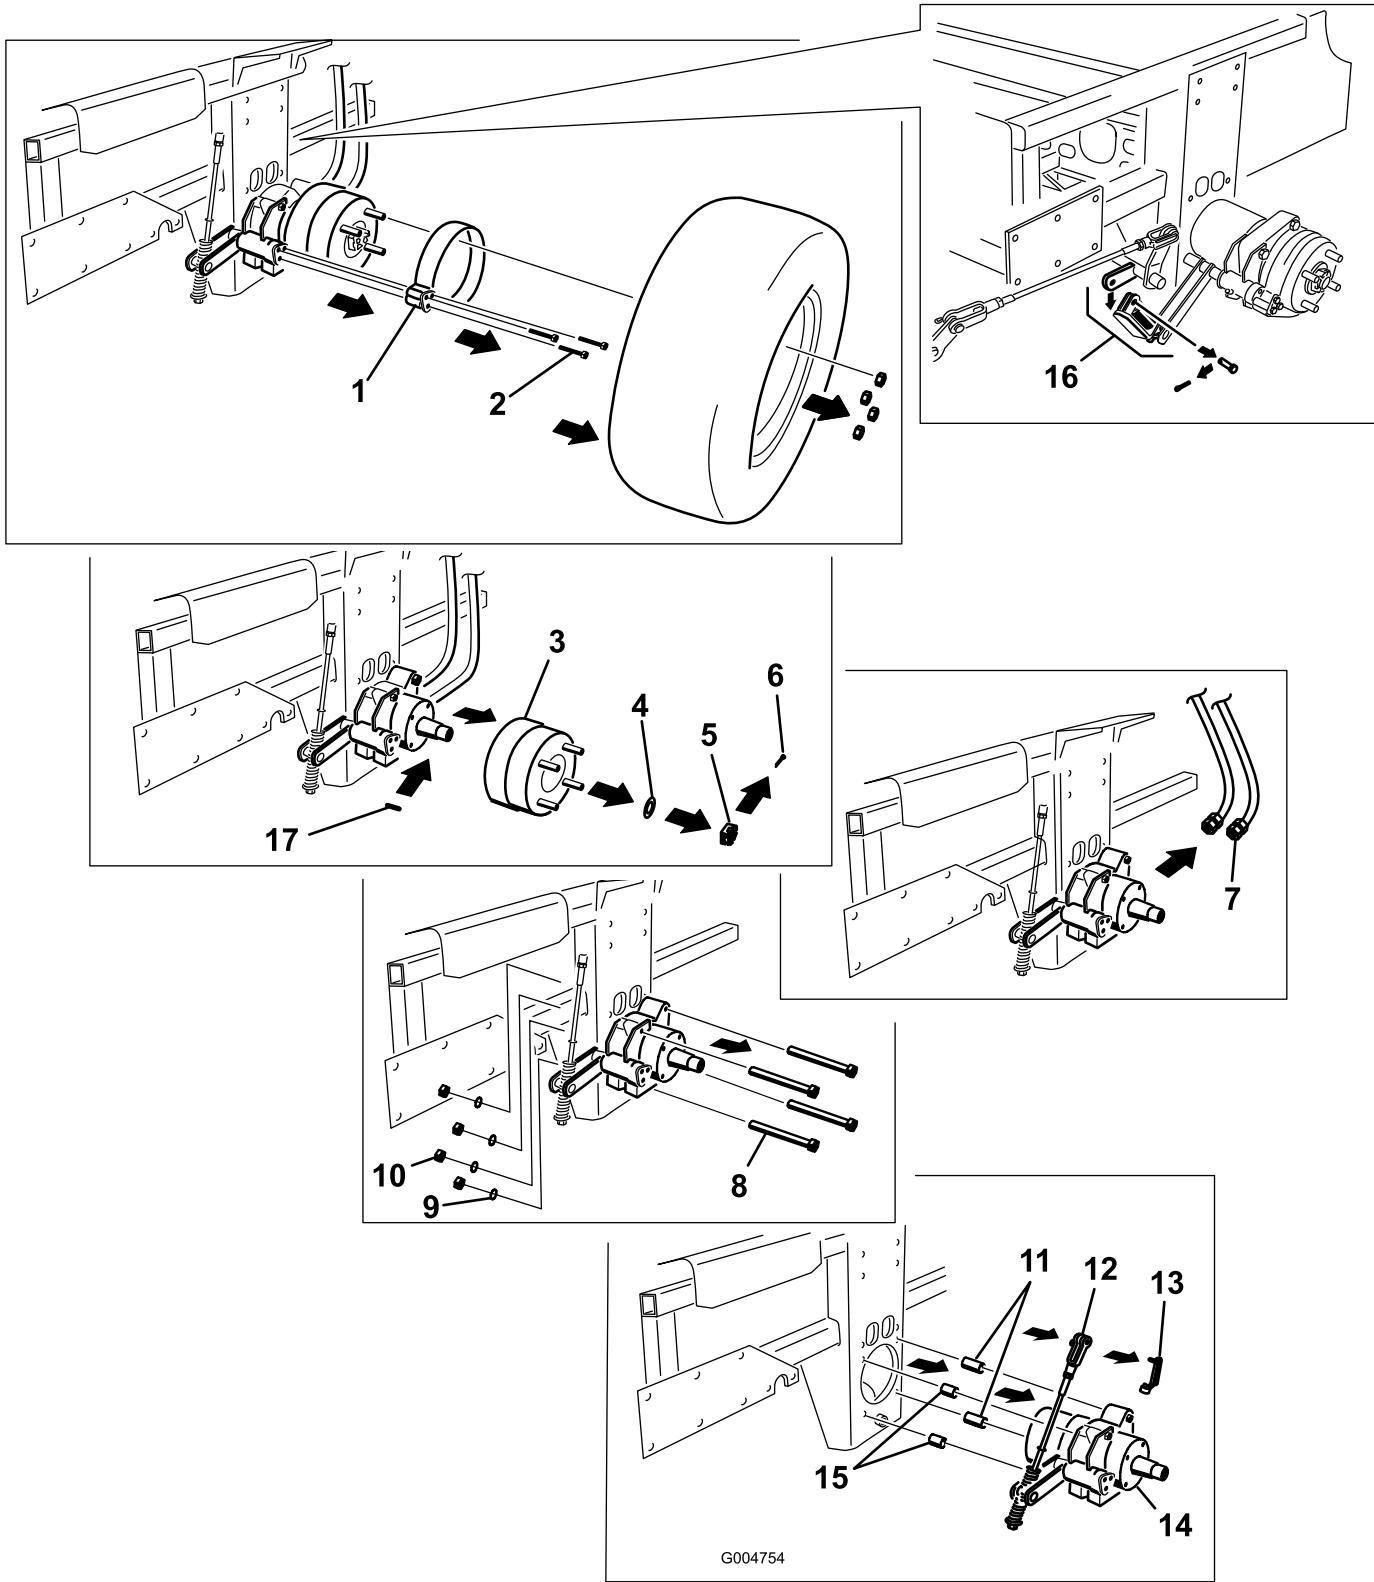

Figure 1
3. Loosen the lug nuts or bolts on the rear tires (Figure 1).
5. Remove the lug nuts or bolts and rear tires from the machine (Figure 1).
6. Remove the brake band bolts and remove the brake band from the wheel hub (Figure 1).
7. Remove the cotter pin from the axle nut and remove the axle nut and washer (Figure 1).
8. Pull the wheel hub from the wheel motor (Figure 1). This may require the use of a pulley puller to remove it.
9. If needed, remove the hydraulic lines connected to the wheel motor (Figure 1). Raise the ends above the hydraulic tank to prevent the fluid running out and plug the hydraulic lines.
10. Remove the retainer pin from the yoke at the top of the brake linkage (Figure 1).
11. Remove the bolts, washers and nuts holding the wheel motor to the frame and remove the wheel motor and brake assembly (Figure 1).
22. Install the tire with wheel nuts or bolts to the machine (Figure 1).